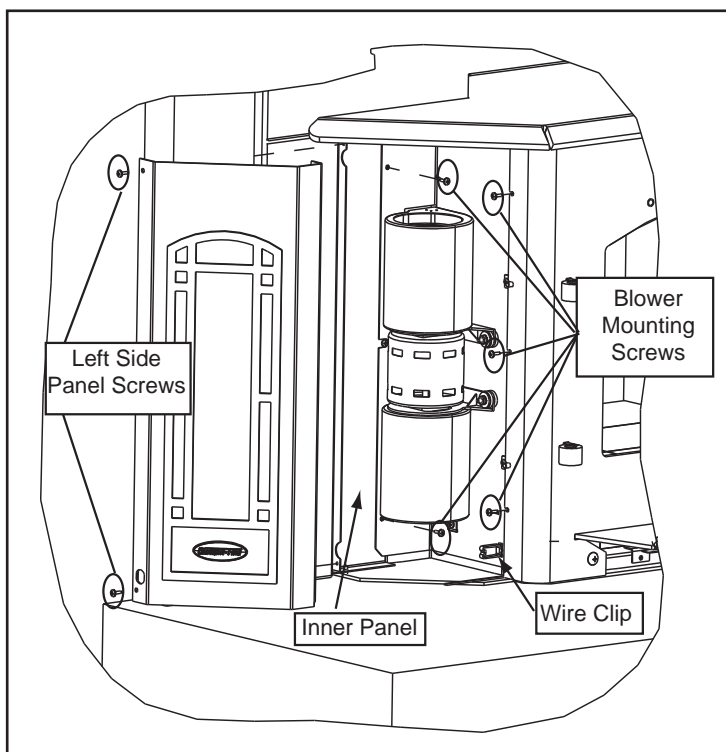

Figure 42.2
2. Slide blower mount with blower attached behind the face and secure with 5 screws provided, 3 on the right side and 2 on the left. **Figure 42.2**.